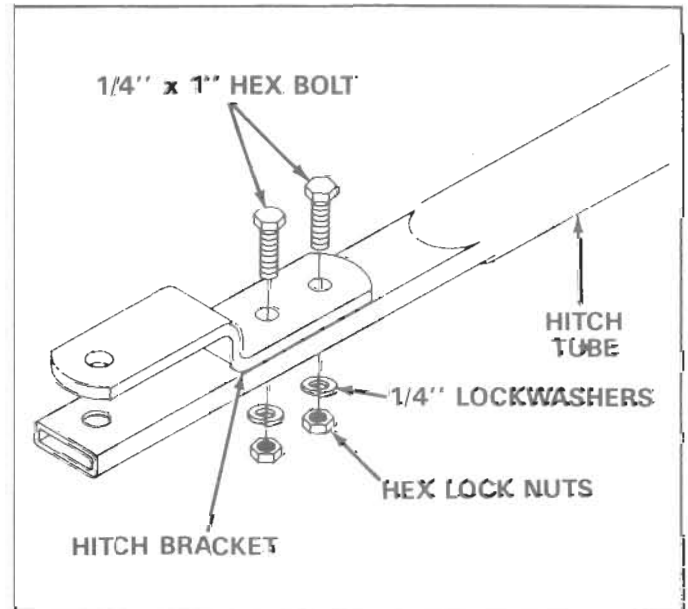

FIGURE 8
- Assemble the hitch bracket to the hitch tube. See figure 8. Secure with two 1/4" x 1" hex bolts, 1/4" lock washers and 1/4" hex lock nuts. See figure 8.